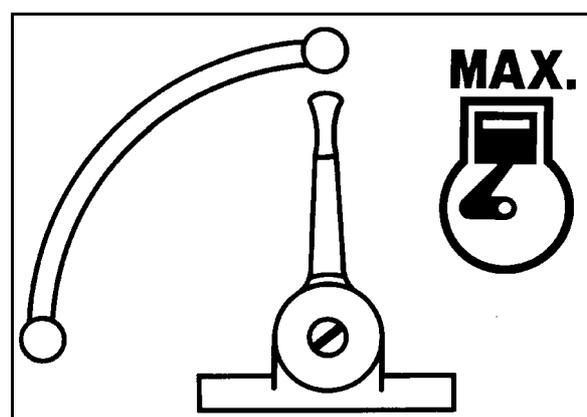

Fig. 13
- Set the throttle lever (Fig. 13) to MAX position.